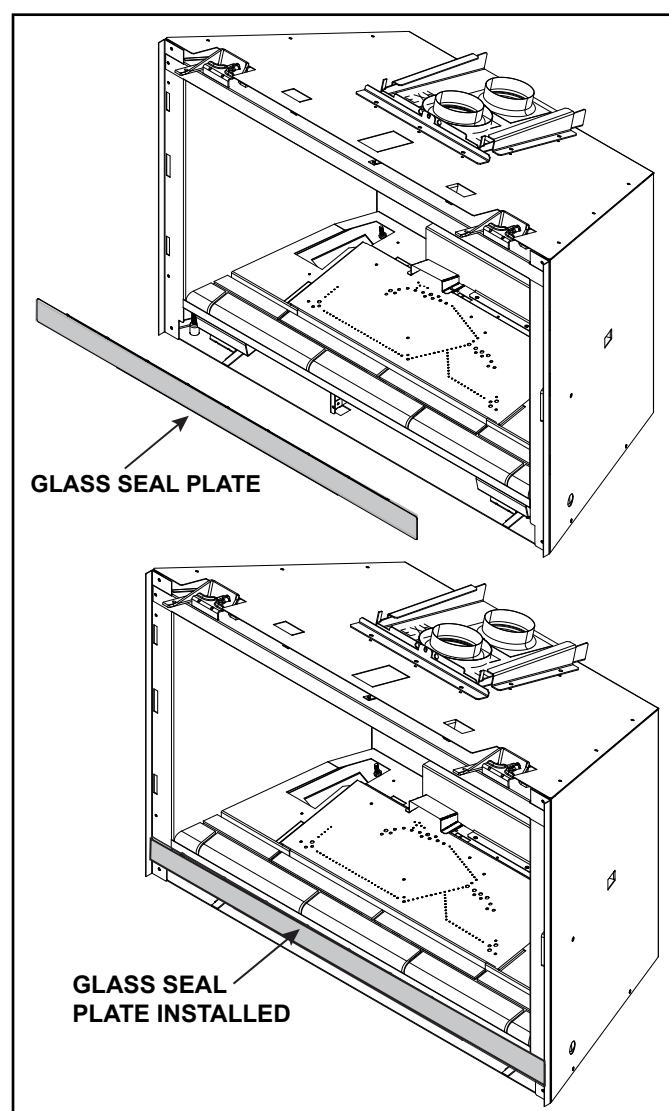

Figure 4.3 Glass Seal Plate
- Verify Glass Seal Plate is properly installed. See Figure 4.3.
- Remove glass seal plate. See Figure 4.3.